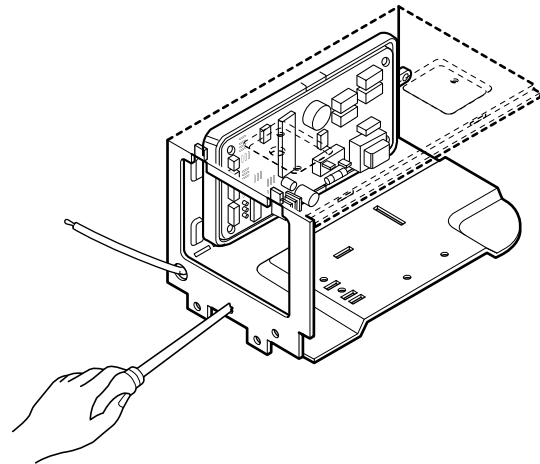

Figure 13
5. Re-install the components by referring to the removal procedure above. (See Figure 13)